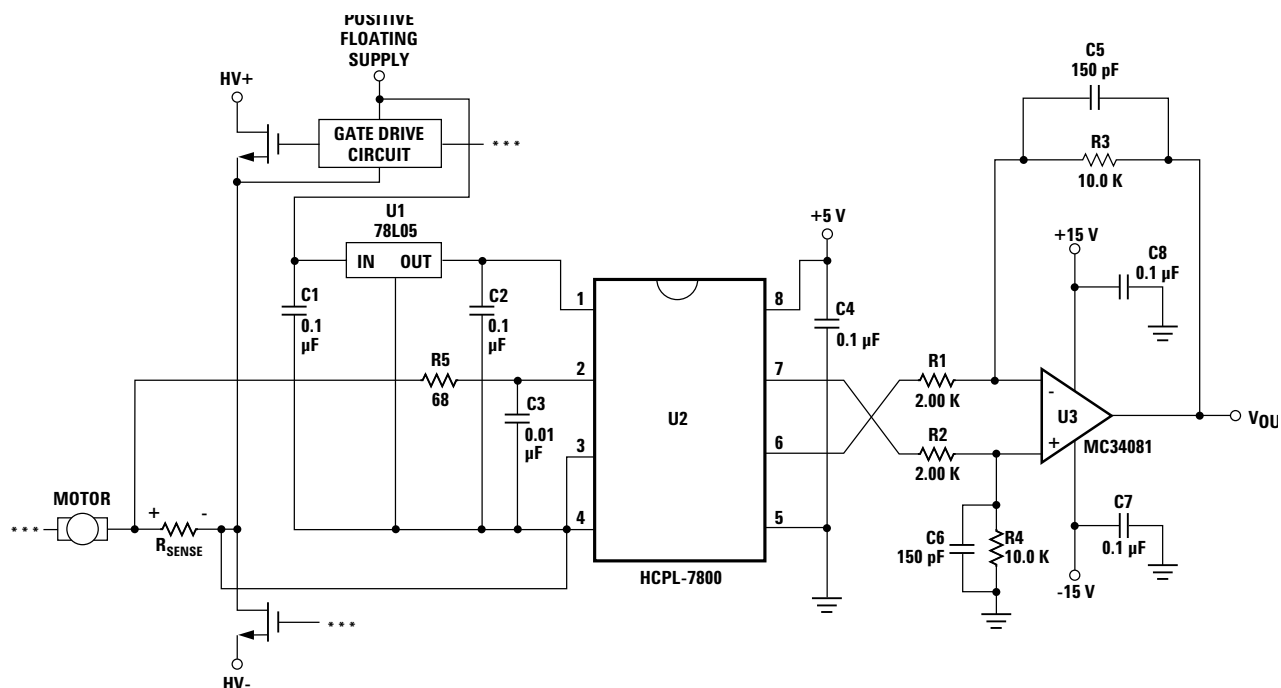

Figure 18: Recommended Application Circuit.
As shown in Figure 18, 0.1 μF bypass capacitors (C1, C2) should be located as close as possible to the pins of the HCPL-7800(A). The bypass capacitors are required because of the high-speed digital nature of the signals inside the HCPL-7800(A). A 0.01 μF bypass capacitor (C2) is also recommended at the input due to the switched-capacitor nature of the input circuit. The input bypass capacitor also forms part of the anti-aliasing filter, which is recommended to prevent high-frequency noise from aliasing down to lower frequencies and interfering with the input signal. The input filter also performs an important reliability function—it reduces transient spikes from ESD events flowing through the current sensing resistor.
The recommended method for connecting the HCPL-7800(A) to the current sensing resistor is shown in Figure 18. V_{IN+} (pin 2 of the HCPL-7800(A)) is connected to the positive terminal of the sense resistor, while V_{IN-} (pin 3) is shorted to GND1 (pin 4), with the power-supply return path functioning as the sense line to the negative terminal of the current sense resistor. This allows a single pair of wires or PC board traces to connect the HCPL-7800(A) circuit to the sense resistor. By referencing the input circuit to the negative side of the sense resistor, any load current induced noise transients on the resistor are seen as a common-mode signal and will not interfere with the current-sense signal. This is important because the large load currents flowing through the motor drive, along with the parasitic inductances inherent in the wiring of the circuit, can generate both noise spikes and offsets that are relatively large compared to the small voltages that are being measured across the current sensing resistor.